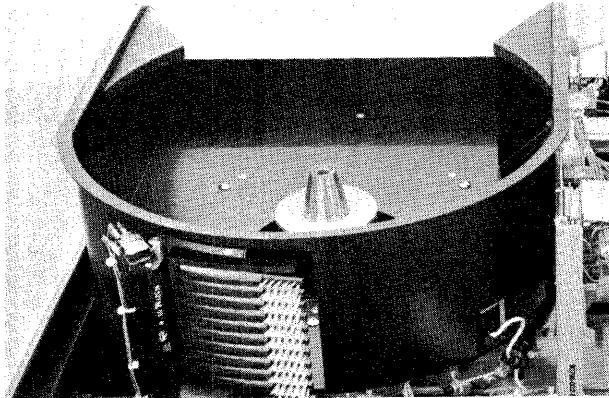

Figure 5-79. Air Shroud
- Remove four screws that fasten shroud to deck plate standoffs (see Figure 5-79).